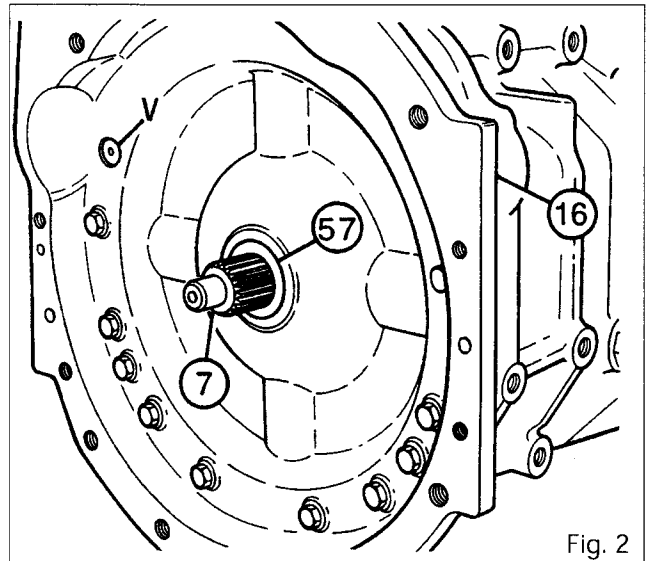

Fig. 2
- Note: The countersunk head of bolt "V" must be correctly positioned (Fig. 2).**
**B. Removing and refitting the seal (Fig. 2)****Removal**
14. Extract the seal (57).